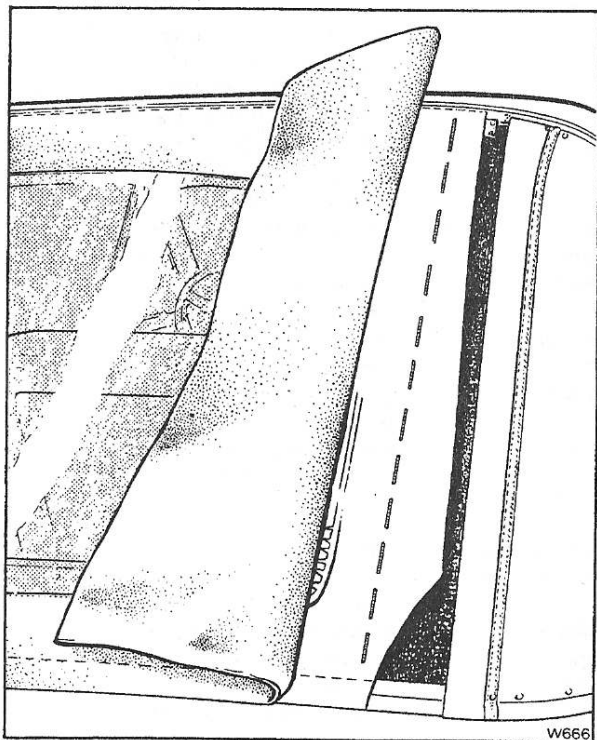

Fig. S154 Stitches securing window inner trim to headlining
9. Fold one side of the outer trim over the window to reveal the vertical line of hand stitches securing the window inner trim to the headlining (see Fig. S154); remove these stitches.